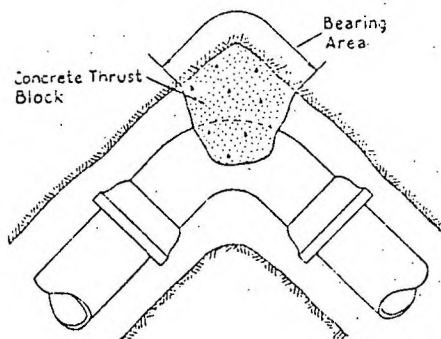
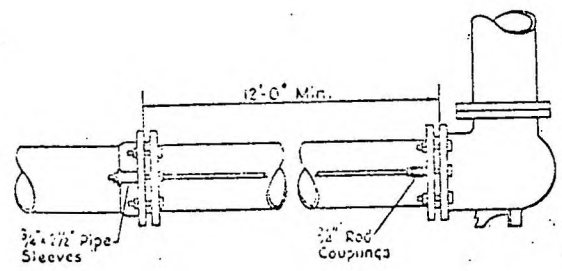

Fig. 1 One-quarter bend thrust block
Fig. 12 Hydrant; bell to pipe spigot
4.4.3 Thrust-Block Anchorages Cast thrust blocks in place so that they will bear against an area of undisturbed soil in the trench wall having a soil resistance of two tons per square foot or more. Place thrust blocks so that the joints will be accessible for inspection and repair. See Figs. 1 and 2.
5.3.2 Anchorage Anchor hydrants to the underground main as shown in Fig. 12. The foot piece (bowl) of each hydrant should in addition be well braced with a thrust block against unexcavated earth at the end of the trench. See Table 3 and Fig. 1.